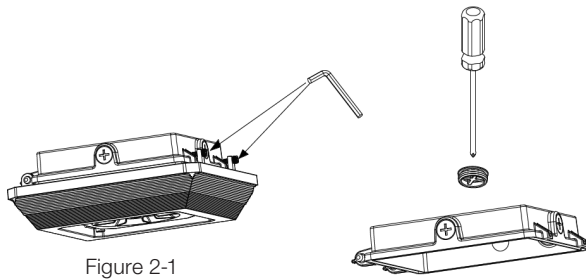

Figure 2-1
1. Disassemble the fixture housing cover by loosening the two screws on the fixture housing. Figure 2-1